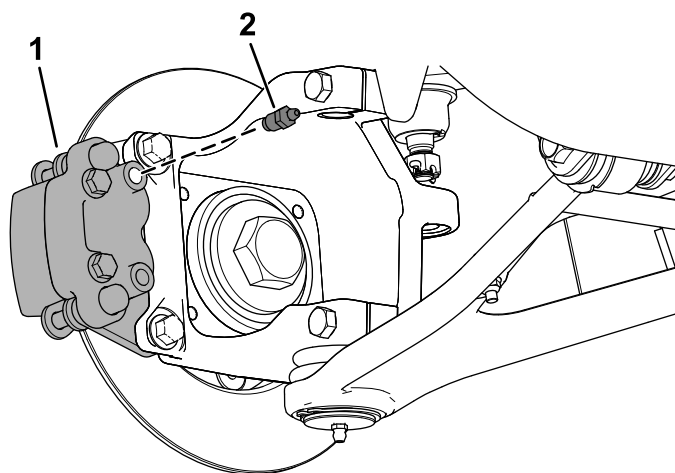

**Figure 9**
5. Install the new brake-caliper assembly to the steering knuckles and rear axles using the previously removed 2 flange-head bolts (3/8 x 1 inch) as shown in Figure 9.